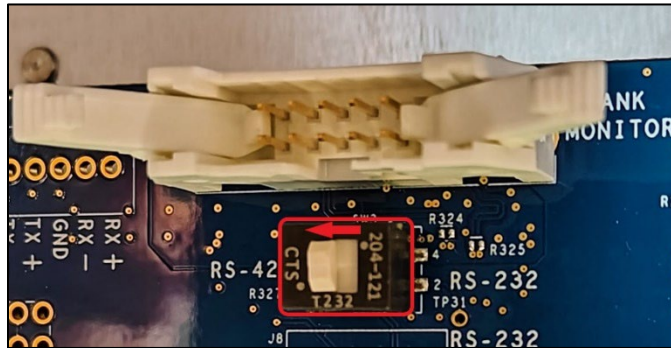

Figure 3 EAPro Connector
- b. If FMLive, connect the 10-pin 191F0234-20 cable to the grey Tank Monitor connector at the top of the EAPro (Figure 3). Ensure the slider below the connector is to the left.